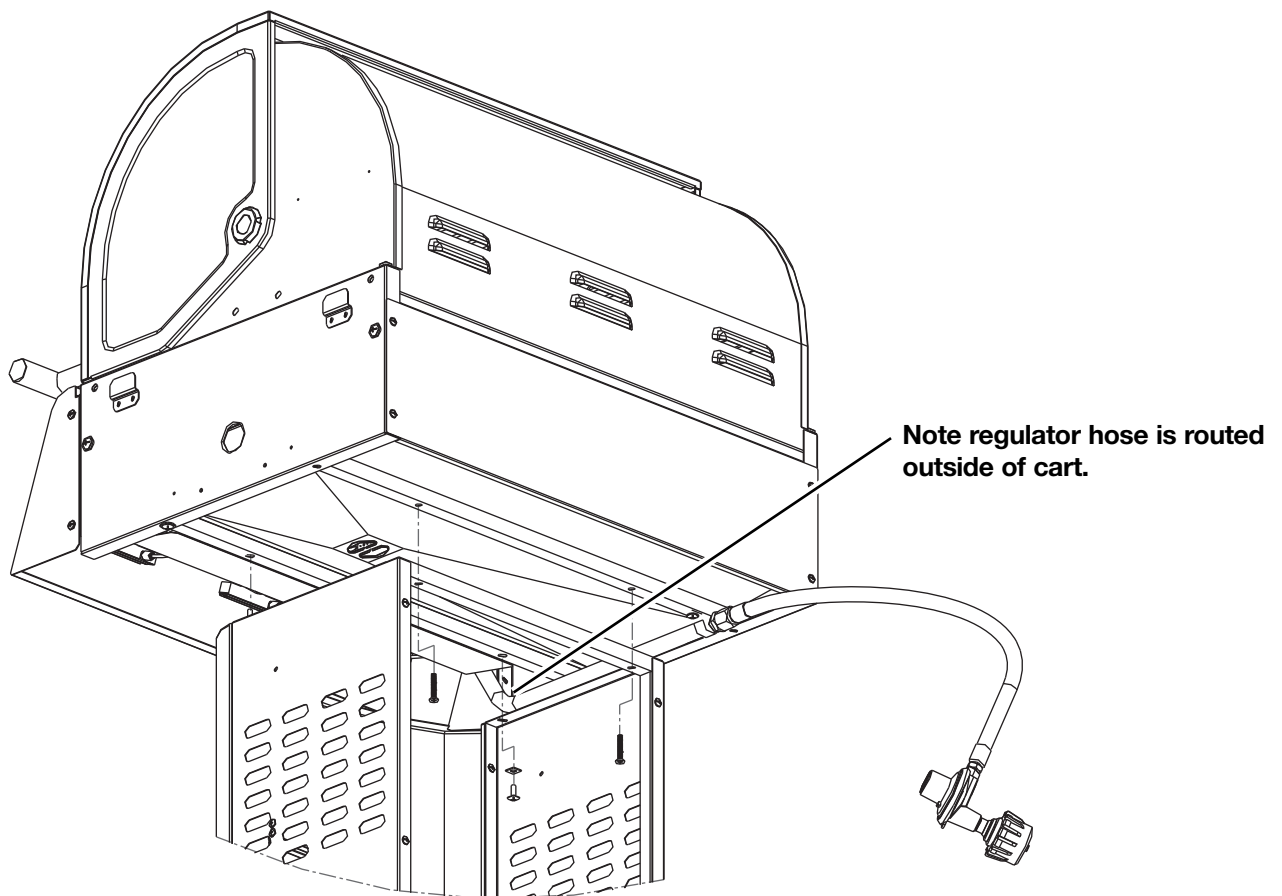

Fig. 4
2. Carefully lower the grill head onto the cart. Make sure the regulator hose is hanging outside the cart. Attach head to cart with two (2) M6 x 13 screws and two (2) M6 flat washer in the front; two (2) M6 x 26 screws in the back as shown in **Fig. 4**.